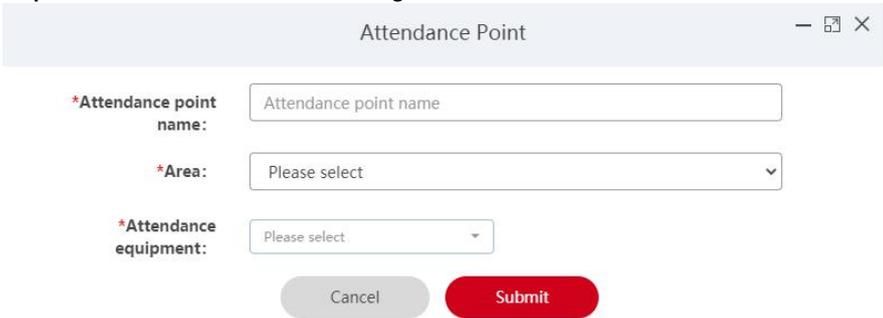

Figure 5-85
Step 2: Click " Add" as shown in Figure 5-85.